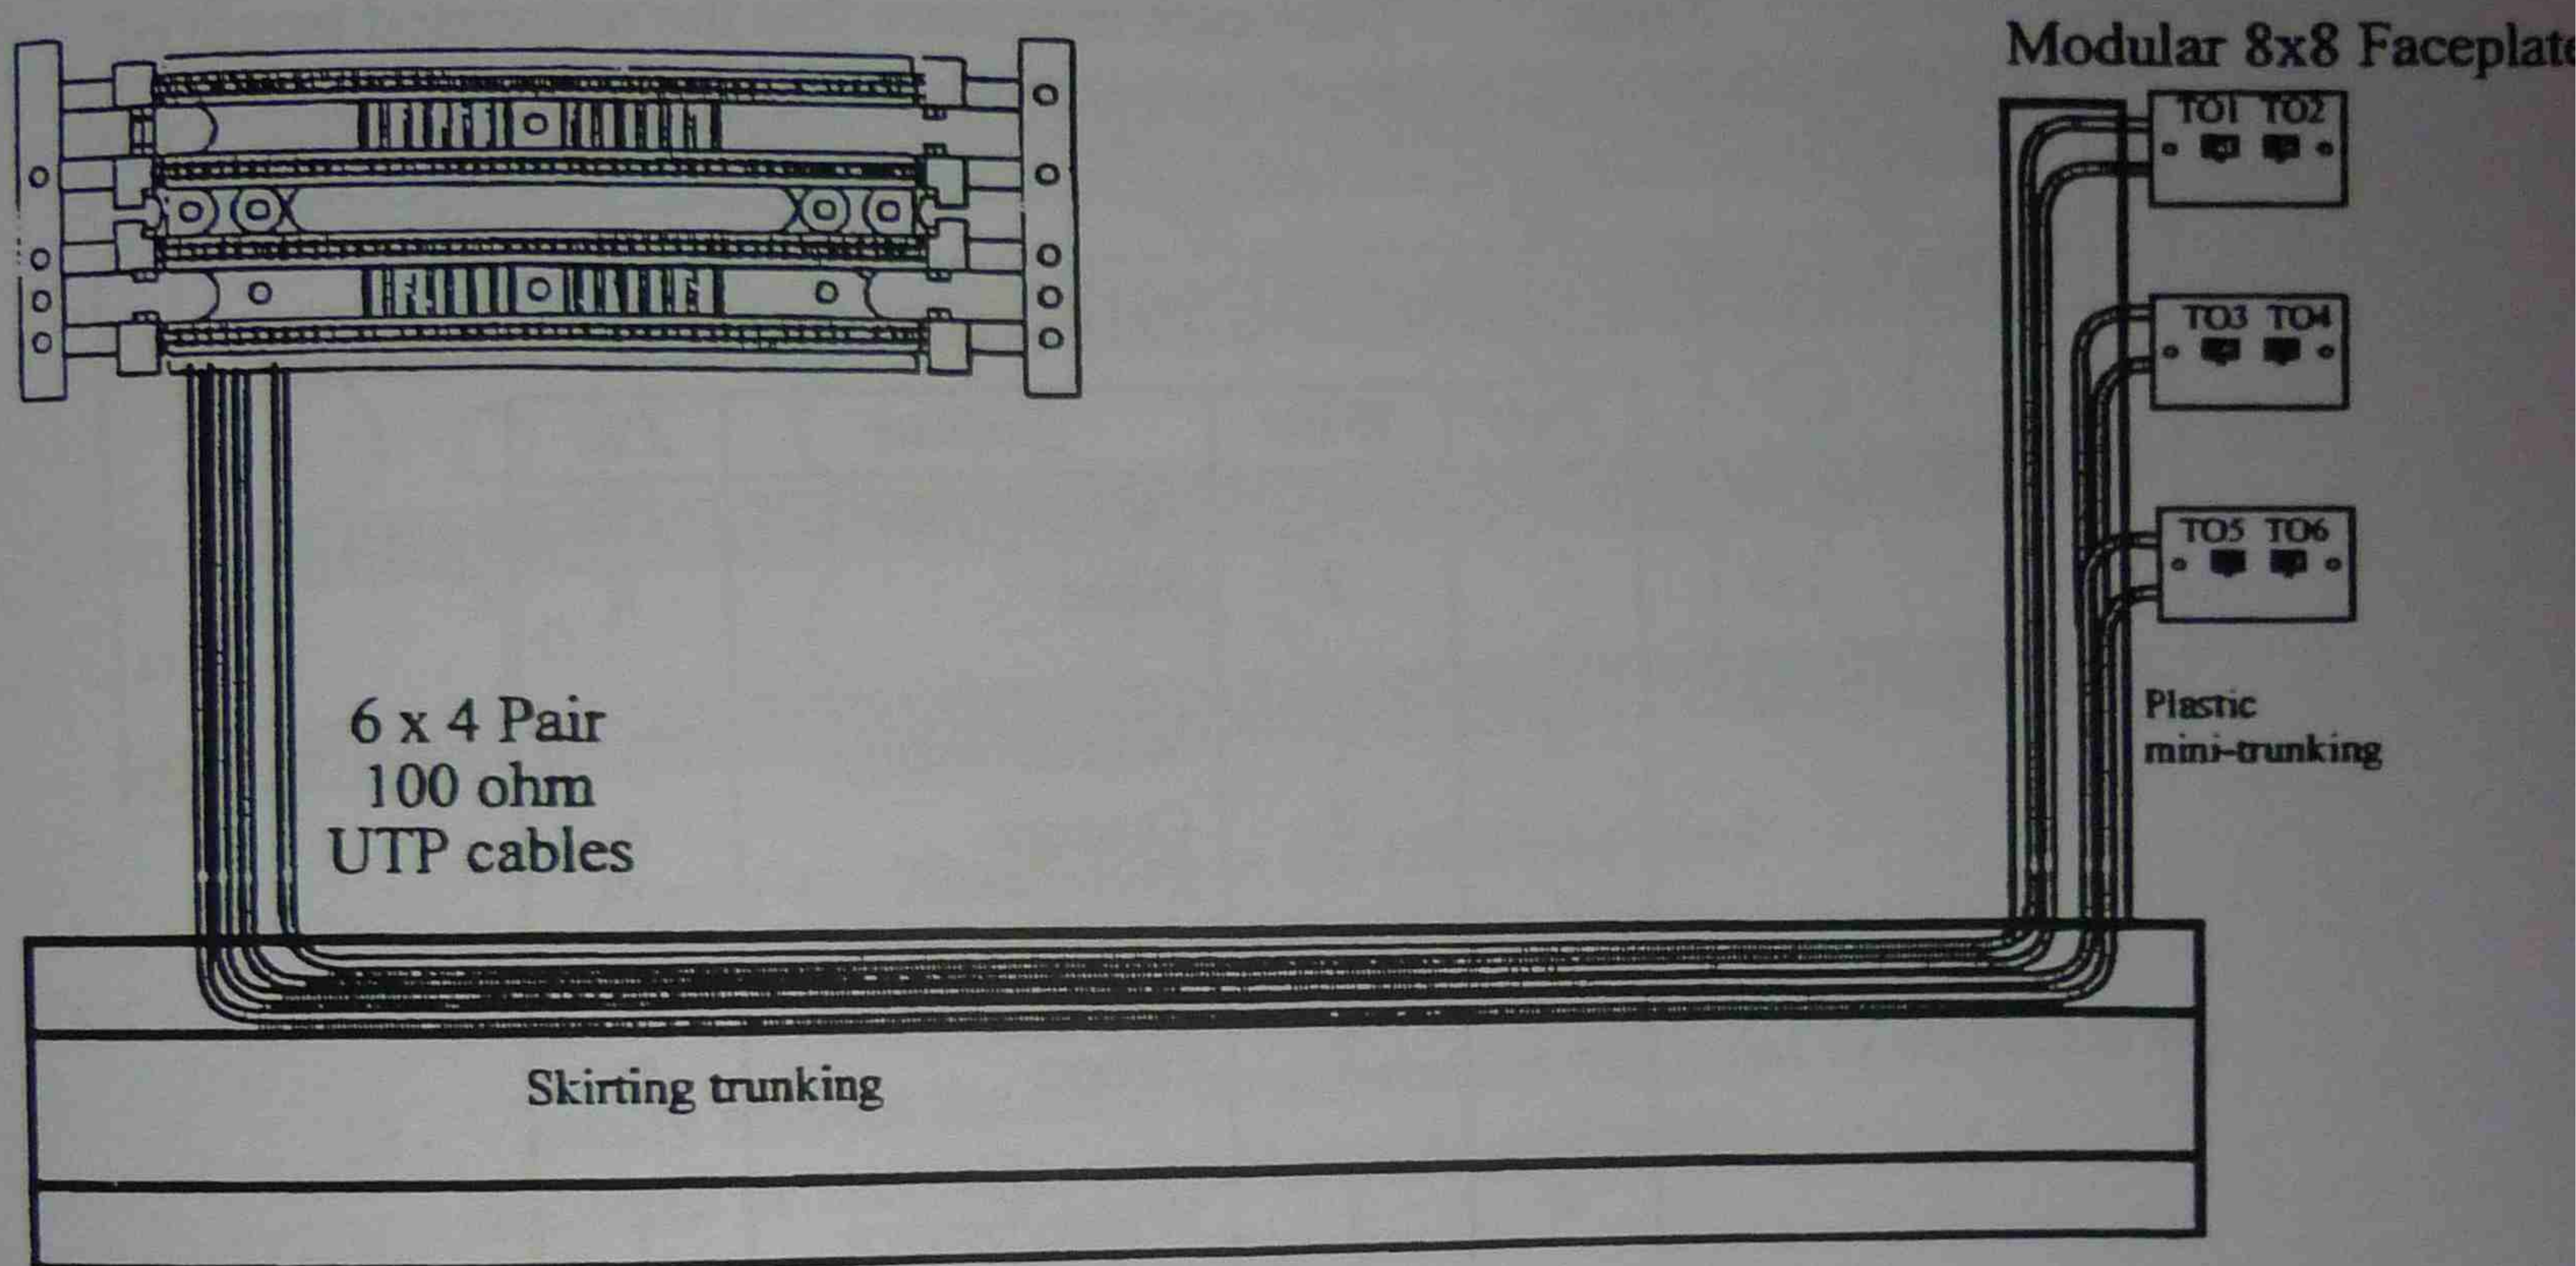

Figure 39 Setting out the work board
1. Secure the mounting blocks, skirting trunking and plastic trunking to the work board using Figure 39 as a guide.
2. Fix one 100 pair 110 wiring block onto the left side of the work board using the necessary tools and hardware. Use Figures 39 and 40 as a guide for positioning the blocks.
4. Install two 4 pair Category 5 cables between each mounting block and the 110 Block. Use Figure 39 as a guide.